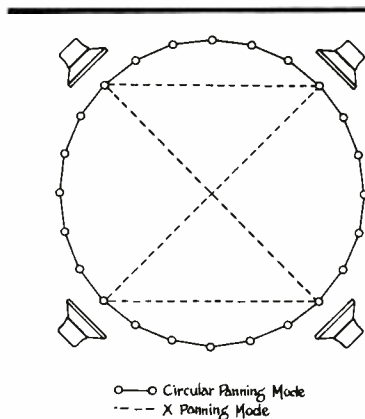

Fig 5- Panning Modes of 4212 Position Encoder
SQ encoding is further complicated by the introduction of the so called "position encoder" or the "pan pot module," Model 4212. The Position Encoder may be used for panning around the  $360^\circ$  field in 24 segments ( $15^\circ$  increments), or an (X)-pan switch permits diagonal or left-right front/left-right rear pans. The Position Encoder nominally consists of eight pan pots, and may be expanded in sets of eight. In order to encode a sound inside the  $360^\circ$  circle, other than on a diagonal between speakers, at least two of the pan pots must be used; the relative signal level and position setting of each panner may then be used for locating the sound. See Figure 5. While the 4212 provides a means for achieving a quad mix from a stereo mixing console, it is primarily required for any quad panning where optimum SQ encoding is desired. Its output, because it is phase shifted, will not usually provide optimum positioning for discrete four track tapes [27].